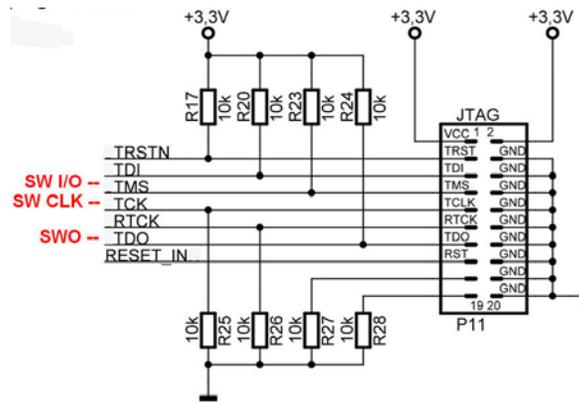

Figure 33: Legacy JTAG Connector showing location of the Serial Wire signals. Top view.
- 2) Click on the Utilities tab. The rear window of Figure 33 opens up.
- 3) Click on Settings. The front window of Figure 33 opens up.
- 4) Under description is the Flash programming algorithm. Figure 33 is correct.
**TIP:** To program the flash when entering Debug mode, select Update Target before Debugging as shown in the rear Figure 33. If not selected, you will need to program it manually with the Load icon.